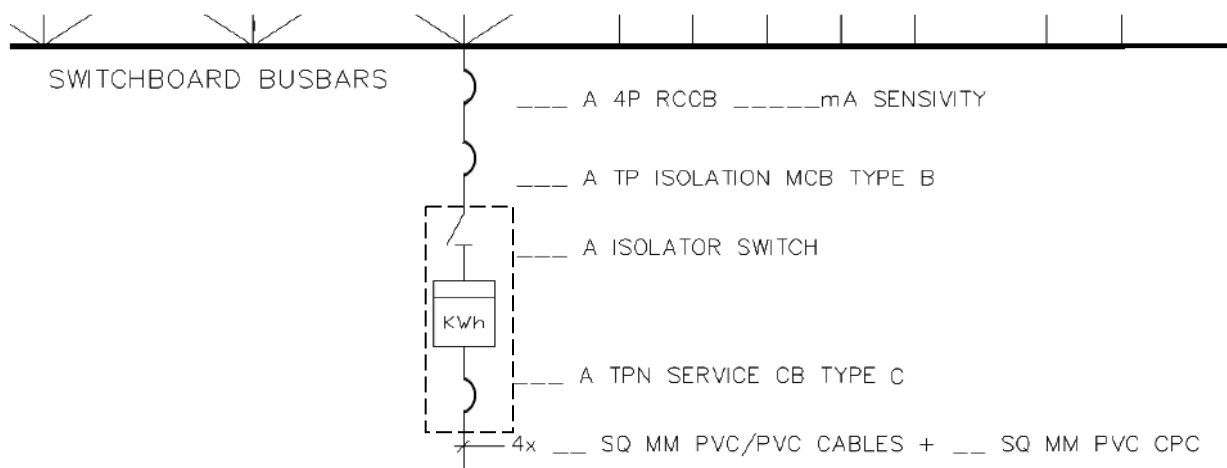

Figure 11-5 Incoming accessories when $I_T < 100A$
- ❖ **Figure 11-5** – for the incoming current less than 100 A, i.e. **$I_T < 100 \text{ A}$**
For incoming set-up as per Figure 11-5;